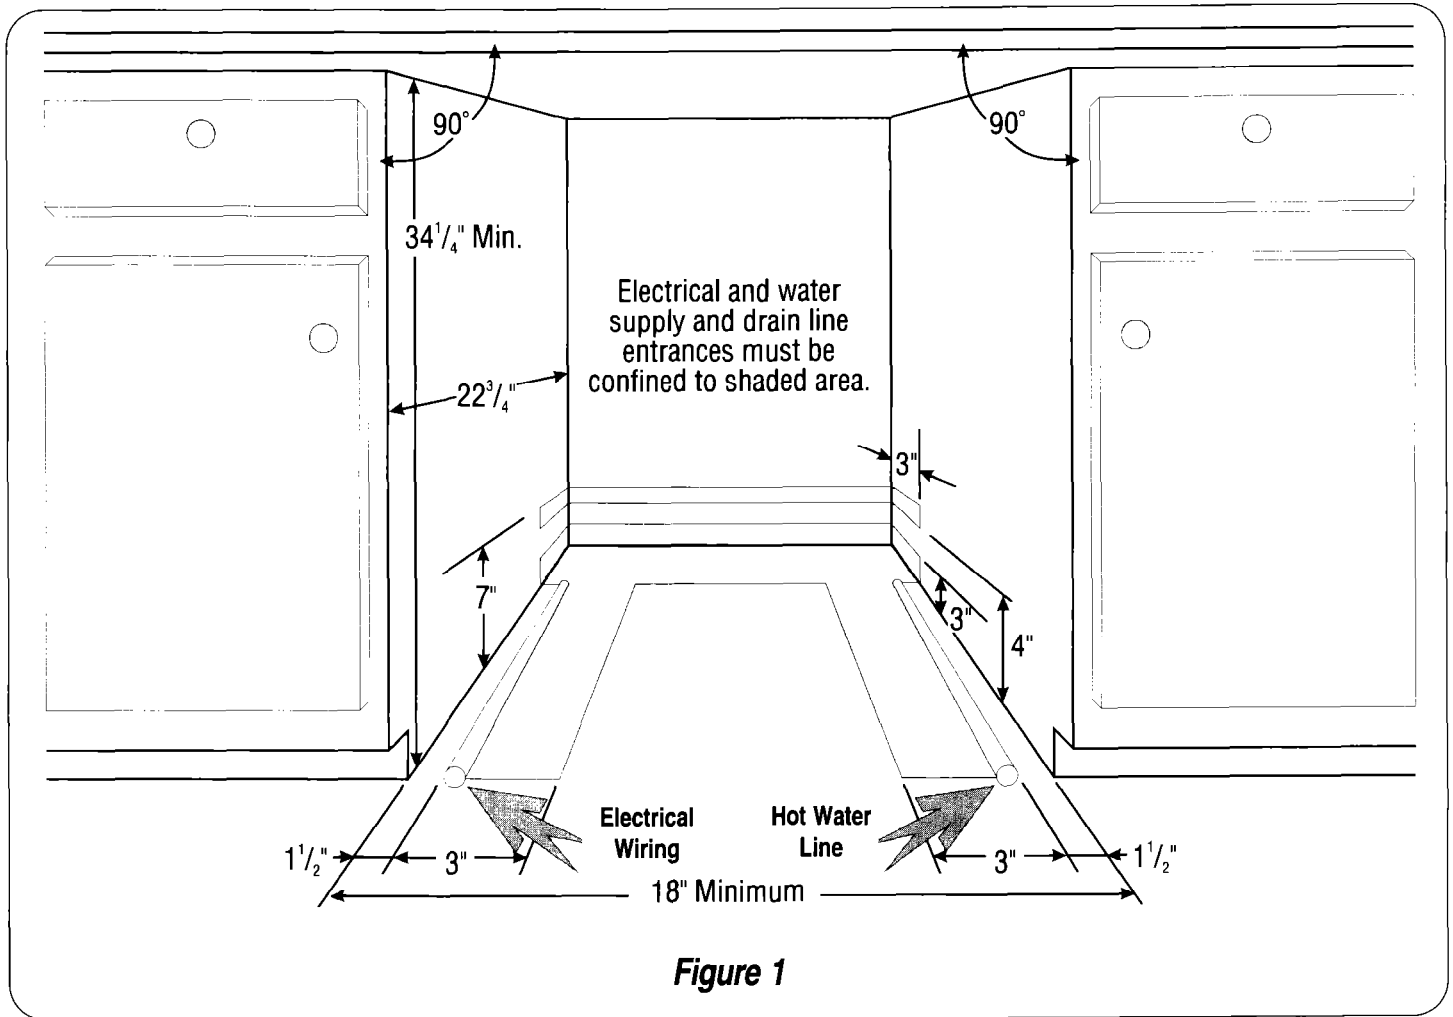
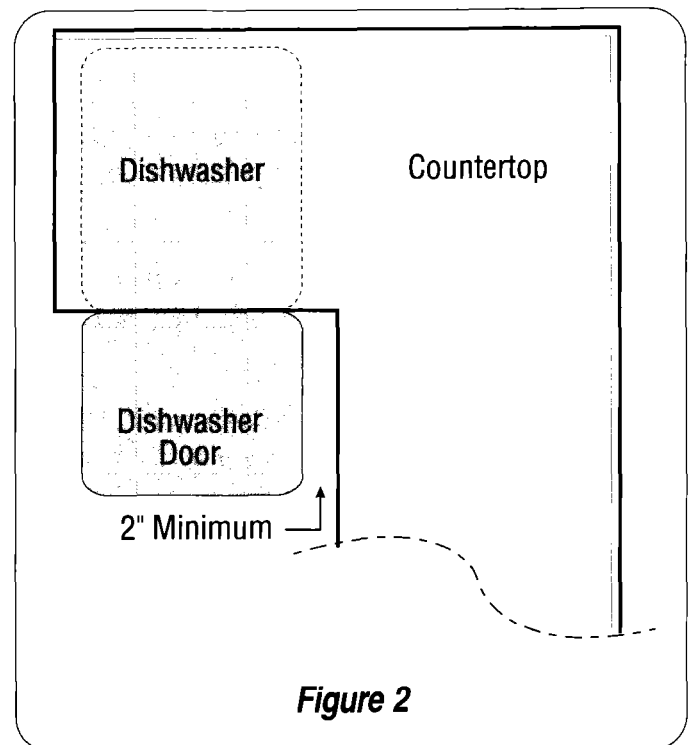

Figure 1
Figure 2
Most of the installation work should be done before the dishwasher is moved into place. First, select a location as close to the sink as possible for ready access to water and drain lines. For proper operation and appearance of the dishwasher, the cabinet opening should be square and have dimensions as shown in Figure 1. If the dishwasher is to be installed in a corner, there must be sufficient clearance to open the door as shown in Figure 2. A *minimum* clearance of 2" is recommended.
Refer to the dimensional details in Figure 8 to help you decide where to run the drain, water, and electrical lines. All connections must be made in the shaded area as shown in Figure 1 on page 3.
Review Figures 9 and 10 to determine where you will connect the dishwasher to the drain system. Cut a 2" diameter drain hose hole in the shaded area shown in Figure 1 on page 3. Check both sides of the area **BEFORE** cutting to avoid interference. If the cabinet wall is wooden, sand the edges of the hole until it is smooth and rounded. If the cabinet wall is metal, all sharp edges **MUST** be covered by a protective material such as electrical tape or duct tape to avoid cutting the drain hose.
Cut the water access hole in the shaded area as shown in Figure 1 on page 3. Complete the plumbing rough-in **before** putting the dishwasher into place.
Determine where you will connect to the electrical supply. Note the location of the electrical junction box in Figure 8 on page 6. Cut the access hole in the shaded area shown in Figure 1. Pull electrical cable through into the cabinet area through the access hole.
- Cut a hole in the side of the lower rear corner of the cabinet opening. See Figure 1 on page 3 for installation dimensions. The hole should be large enough for the attachment plug to pass through. The longest dimension of the opening should not be more than 1½”.